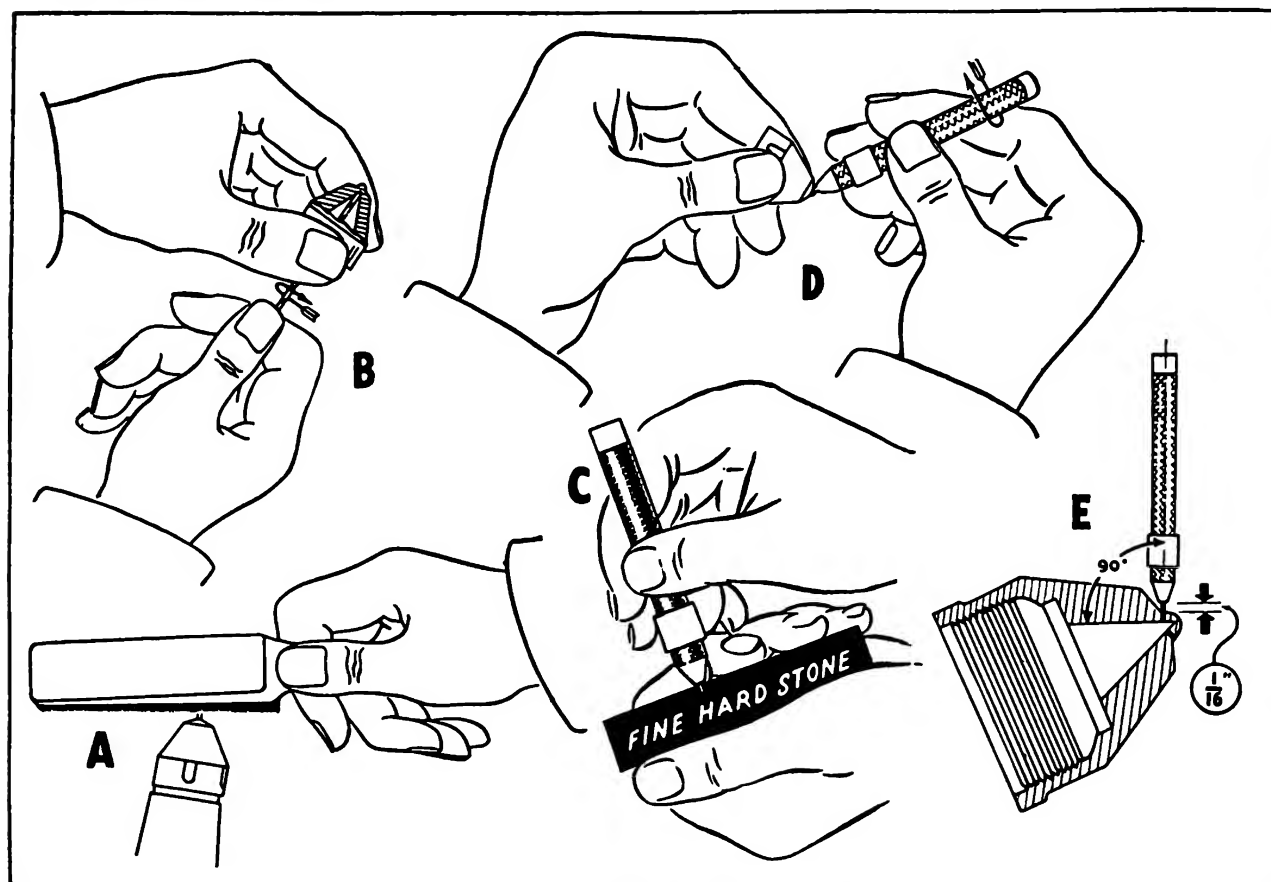

Fig. 6-18. Cleaning injector cup
8. Before using the small wire drills that are furnished to clean the spray holes, place the wire in the pin vise, letting it project about $1/16''$ from the end of the vise. With a very fine hone, "C", sharpen the end of the drill to a wedge. This must be done every time a new drill is used or the old one is broken. When a wire drill is cut off or broken, burrs are always present to scratch the inside of the spray holes in the cup. This will cause deflection of the spray and poor combustion. See Fig. 6-18.